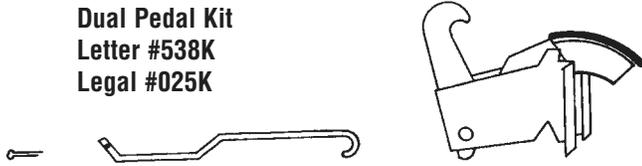

Figure 5 - Dual Pedal Kit
STEP 4 - DUAL PEDAL KIT (Figure 5)